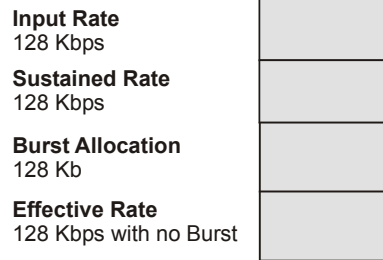

Figure 6: Burst Allocation vs. Sustained Rate, Example 2
- equal to the Sustained Data Rate negates the burst capability. (See Figure 6.)